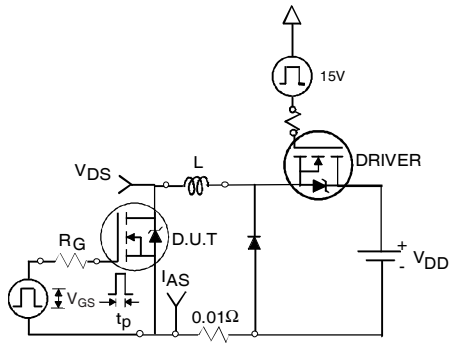

Fig 12a. Unclamped Inductive Test Circuit
- ③ Pulse width $\leq 1.0\text{ms}$; duty cycle $\leq 2\%$.
- ④ $C_{oss\ eff.}$ is a fixed capacitance that gives the same charging time as C_{oss} while V_{DS} is rising from 0 to 80% V_{DSS} .
- ⑤ Limited by T_{Jmax} ; see Fig.12a, 12b, 15, 16 for typical repetitive avalanche performance.
- ⑥ This value determined from sample failure population. 100% tested to this value in production.
- ⑦ This is only applied to TO-220AB package.
- ⑧ This is applied to D²Pak, when mounted on 1" square PCB (FR-4 or G-10 Material). For recommended footprint and soldering techniques refer to application note #AN-994.
- ⑨ R_θ is measured at T_J of approximately 90°C .
- ⑩ Calculated continuous current based on maximum allowable junction temperature. Bond wire current limit is 75A. Note that current limitations arising from heating of the device leads may occur with some lead mounting arrangements.
3. Equation below based on circuit and waveforms shown in Figures 12a, 12b.